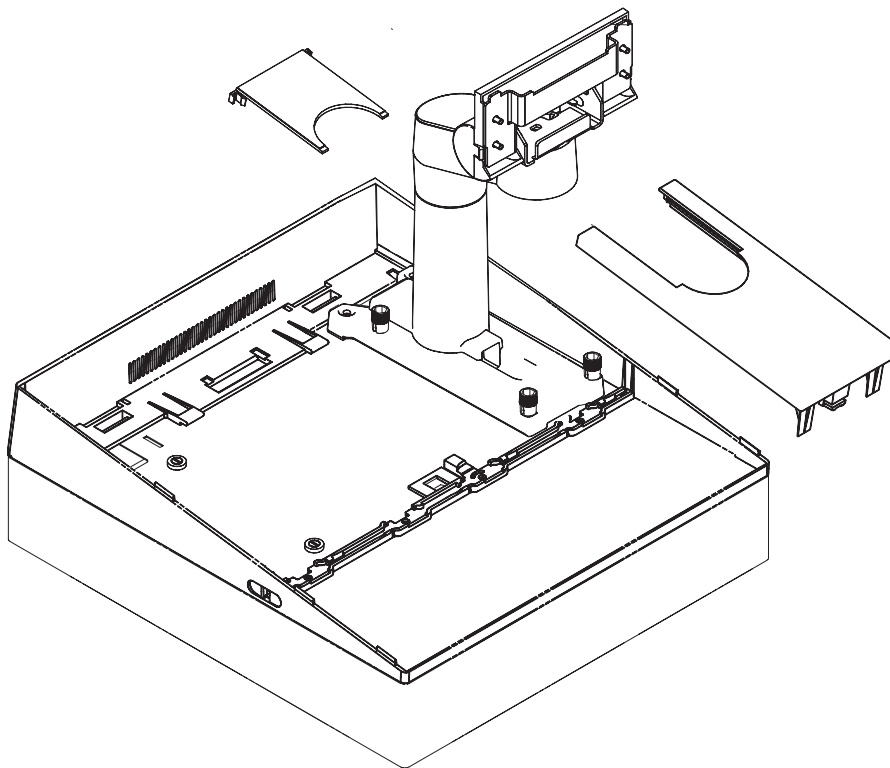

Figure 2-26. Attaching the filler panel covers
8. As shown in Figure 2-26, place the filler panel covers on the arm assembly.